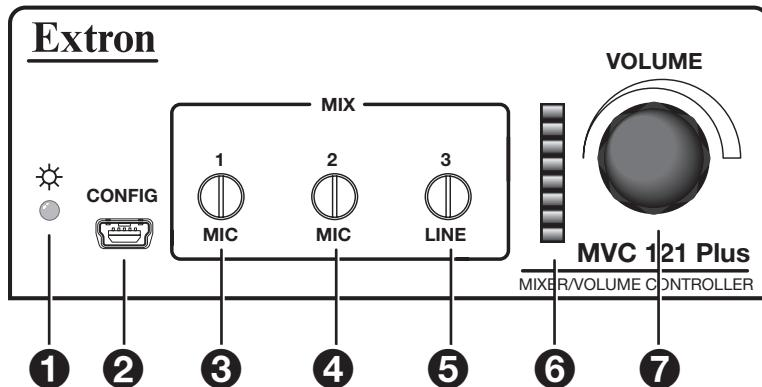

Figure 10. MVC 121 Plus Front Panel
- ④ Mic 2 gain control** (see figure 10 on the previous page)— Rotating the encoder screw clockwise increases the gain setting, rotating the encoder screw counterclockwise decreases the gain setting. This adjustment controls the single gain point in the mix matrix that mixes mono mic 2 levels to the stereo output bus.